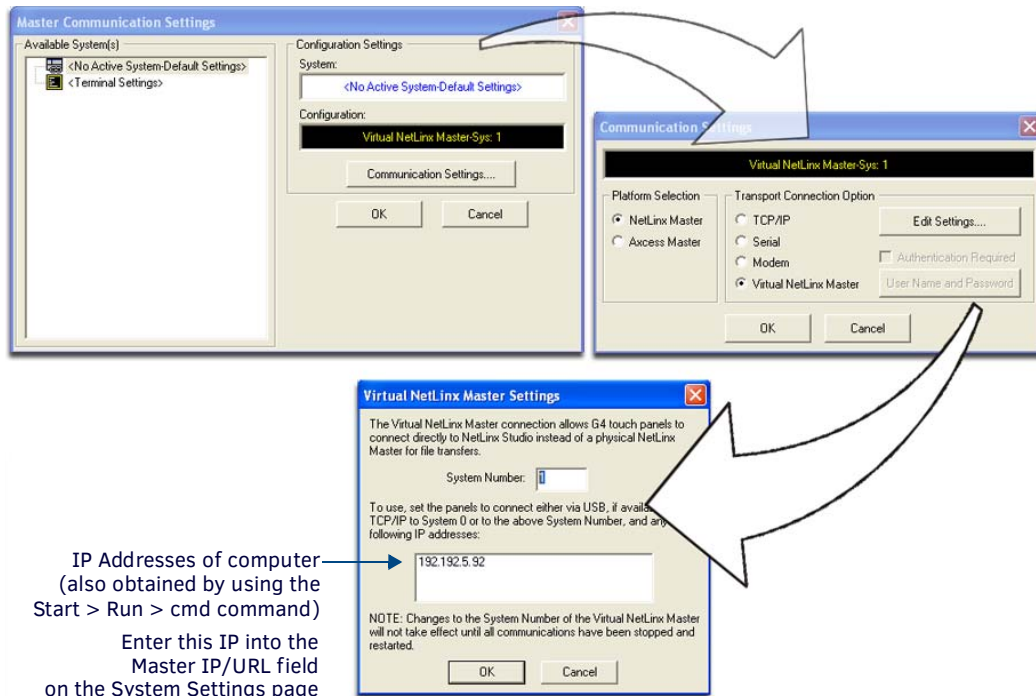

FIG. 82 Assigning Communication Settings and TCP/IP Settings for a Virtual Master
3. Select **Settings > Master Communication Settings**, from the Main menu to open the Master Communication Settings dialog (FIG. 82).
7. Click the **Edit Settings** button (on the Communications Settings dialog) to open the Virtual NetLinx Master Settings dialog (FIG. 82).